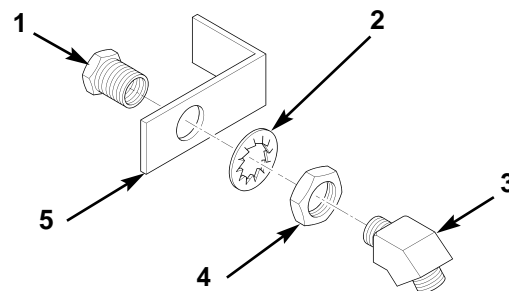

Figure 4. Disassembling Right-Rear Air Block.
3. Remove elbow (figure 4, item 3) from bulkhead fitting (figure 4, item 1).
4. Remove nut (figure 4, item 4), lockwasher (figure 4, item 2), and bulkhead fitting (figure 4, item 1) from right-rear bulkhead fitting mount (figure 4, item 5). Discard lockwasher (figure 4, item 2).